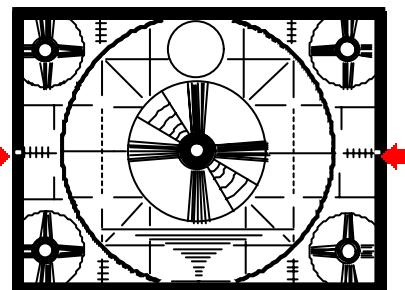

Fig.2-3 NTSC MONO-SCOPE
2. Use the VOLUME + or - key on the remote controller to adjust and match the center lines appearing in the right and left edges of the mono-scope screen with the CRT center mark. (Fig. 2-3)